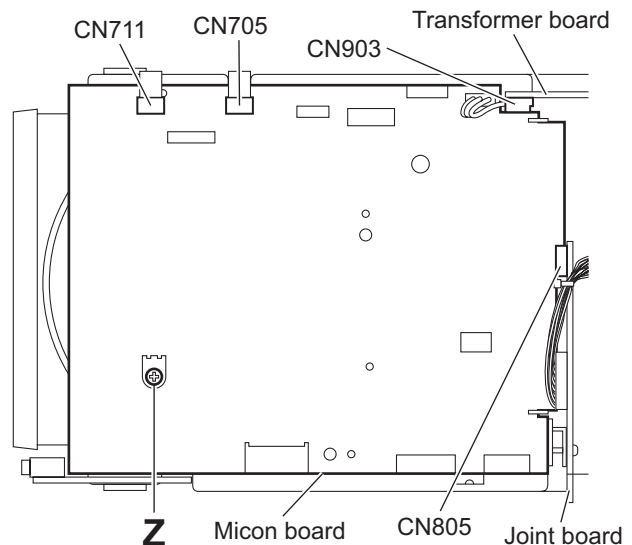

Fig.20
- Disconnect the wire from the connector **CN903** on the transformer board. (See Fig.20.)
- Disconnect the card wires from the connectors (**CN705** and **CN711**) on the micon board. (See Fig.20.)
- Remove the screw **Z** attaching the micon board. (See Fig.20.)
- Disconnect the micon board from the connector **CN805** on the joint board. (See Fig.20.)